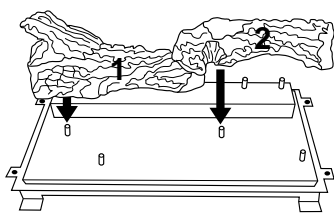

Figure 44 - Installing Logs No. 1 and No. 2
1. Place log #1 (left base log) onto pin on left side of burner as shown in Figure 44.
2. Place log #2 (right base log) onto pin on right side of burner as shown in Figure 44.